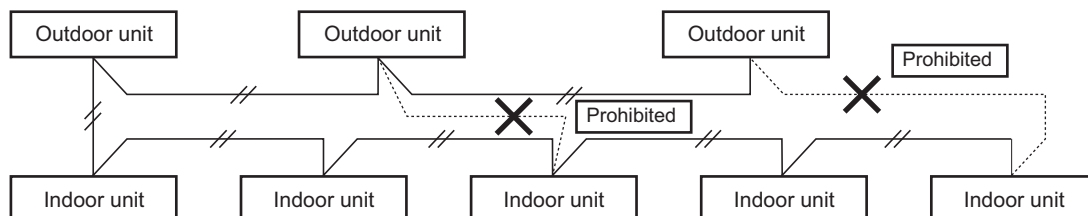

Fig. 1-1
- (2) Do not install the inter-unit control wiring in a way that forms a loop. (Fig. 1-1)